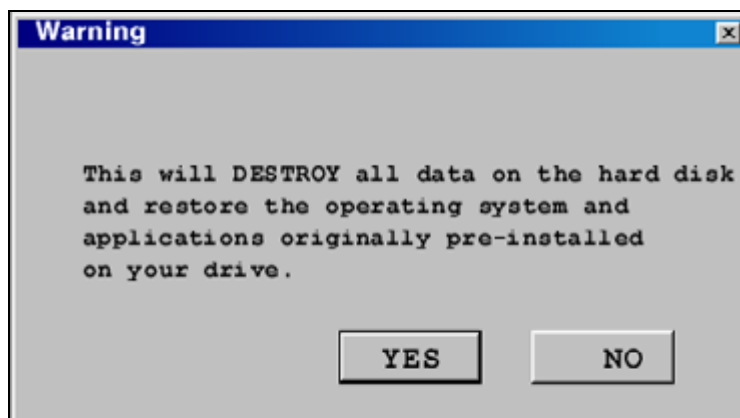

Fig. 11:
- ⇒ A warning about the risk of losing medical studies is displayed (Fig. 11 / p. 13).